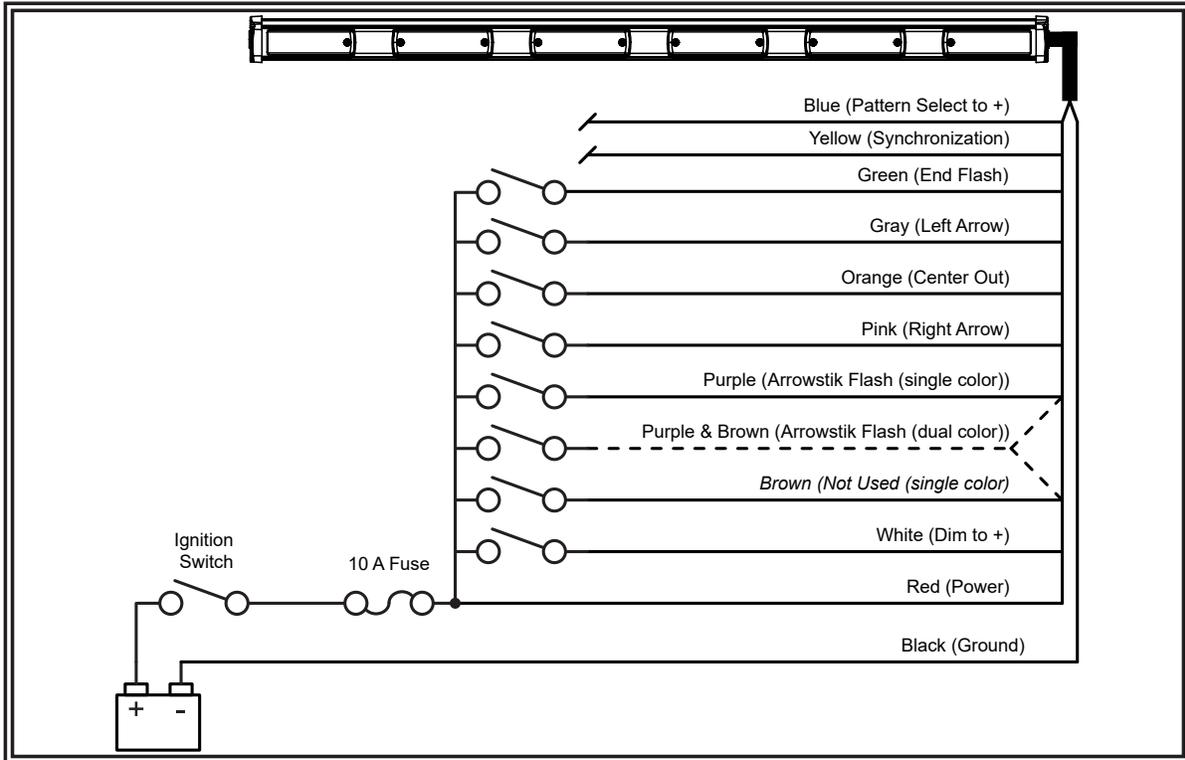

Figure 3 - 6-Head Models
Before attempting to connect the unit's wiring harness, refer to the wiring diagram in FIGURE 3. The wiring diagram describes the function for each wire.
1. After the lightbar has been mounted, route the power cable's red wire to a fused, ignition-switched power point as shown in FIGURE 3. Use an in-line 10 amp slow blow fuse on the positive line. Connect the black wire directly to the negative battery terminal. A minimum size of 18 AWG wire should be used on the power and ground lines.